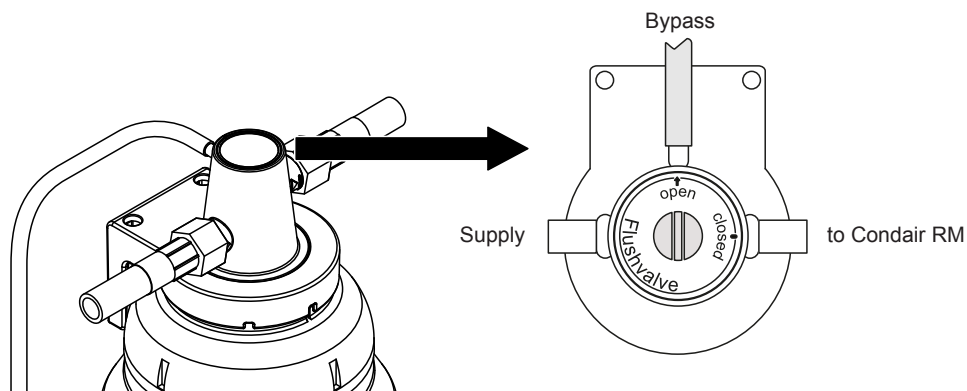

Fig. 15: Turn valve to "Bypass" (flushing position)
- Turn valve in the filter head in such a way, that "open" points to "Bypass" (flushing position, see Fig. 15).